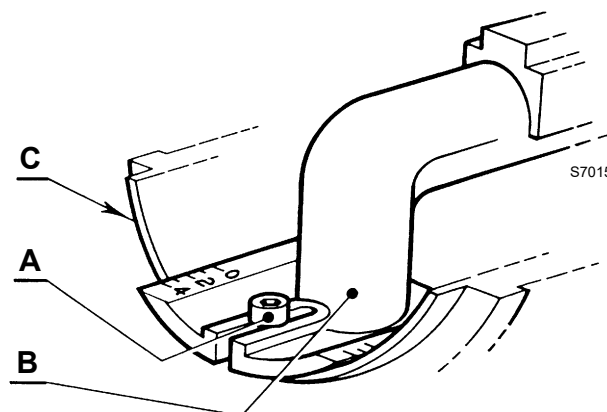

Fig. 11
- loosen the screw A)(Fig. 11), move the elbow B) so that the rear plate of the coupling (C) coincides with the set point;